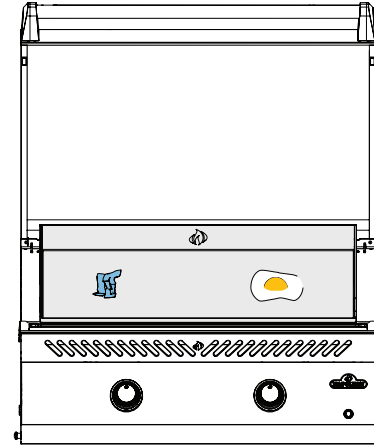

Fig. 1
- Use the two cooking zones to cook a variety of foods at different temperatures. (Fig. 1)